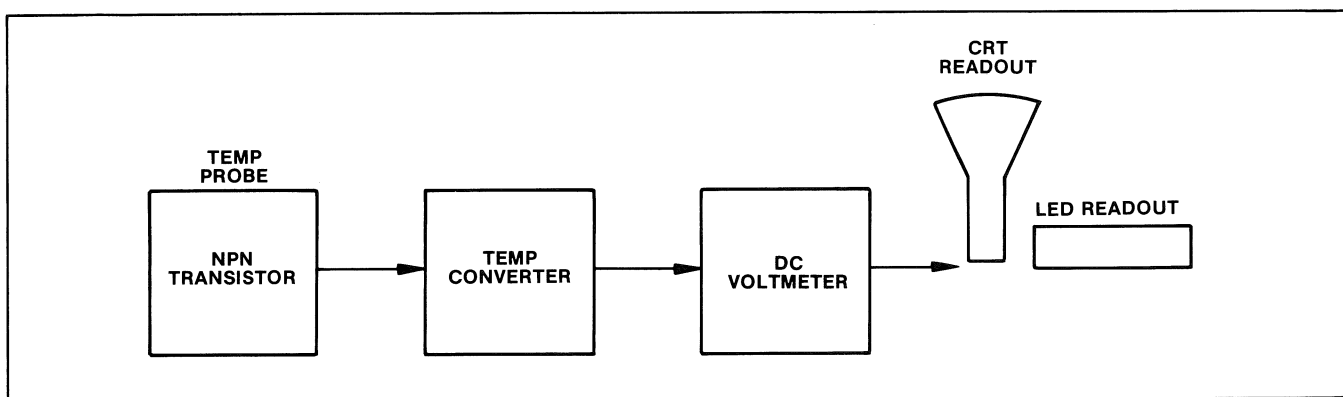
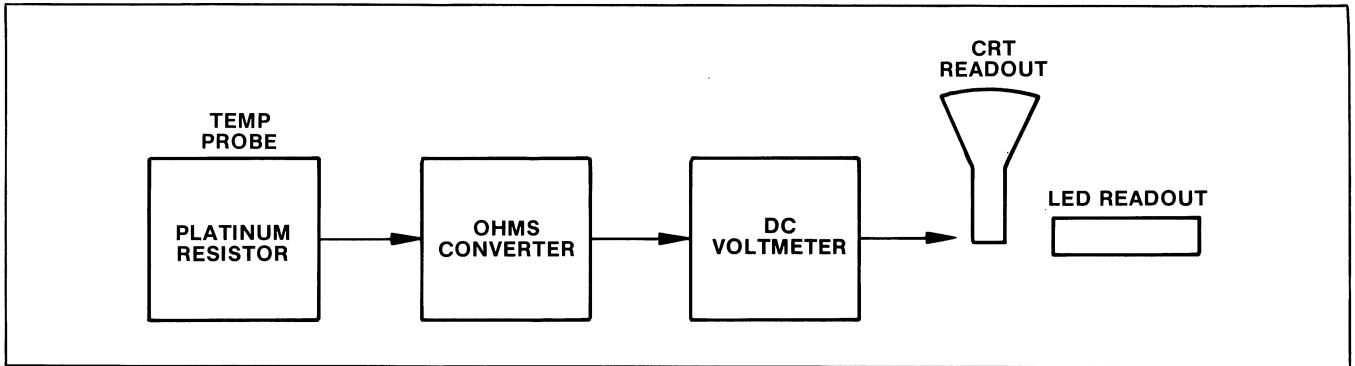

Figure 2-6. Temperature meter with an NPN transistor probe.
Figure 2-7. Temperature meter with a platinum resistor probe.
Temperature measurements are made by converting the input temperature to an equivalent dc voltage. Two methods of conversion are available: (1) Using an NPN Transistor Probe with a Temperature Converter as shown in Figure 2-6, or (2) using a Platinum Resistor Probe with an Ohms Converter as shown in Figure 2-7.